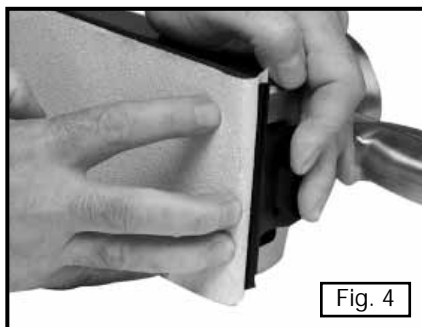

Fig. 4
3. Press the rear clip toward the base. Slip the free end of the abrasive sheet under the clamp (Fig. 4).